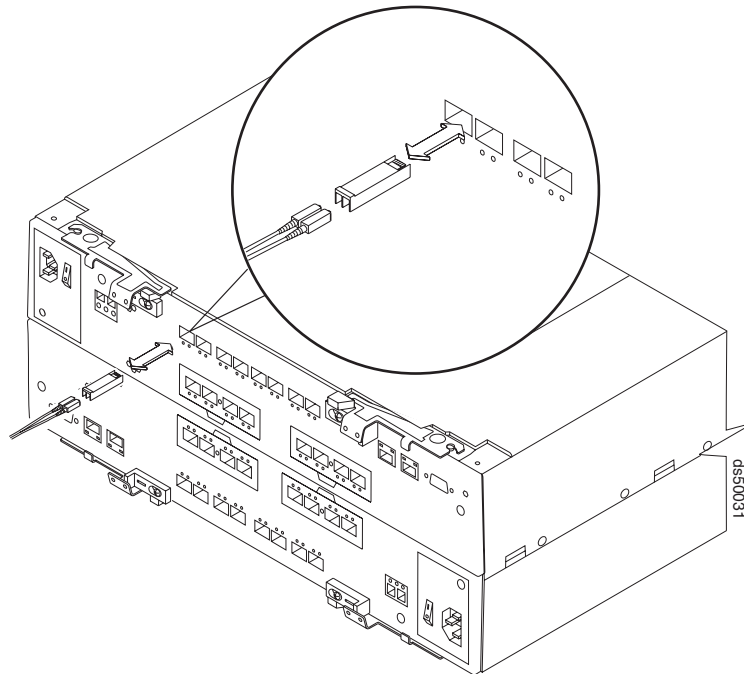

Figure 25. Installing an SFP module and LC-LC cable in a supported DS5000 storage subsystem
2. Connect an LC-LC fibre-optic cable into the SFP module, as shown in Figure 25 on page 49.